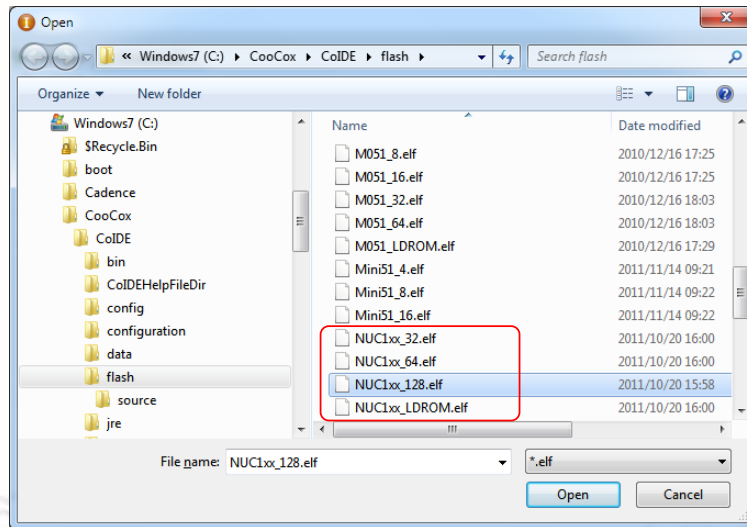

Figure 4-22 Set the Programming Algorithm File for CoCoX CoIDE
Step 5: To ensure the firmware will be downloaded to APROM or LDROM, select *NUC1xx\_128.elf* or *NUC1xx\_LDROM.elf* file (NUC100 series is used in this case) as shown in Figure 4-22; “32, 64, or 128” in the file name means the capacity of APROM. If no specific file is founded, specify the following path “C:\CooCox\CoIDE\flash\”.